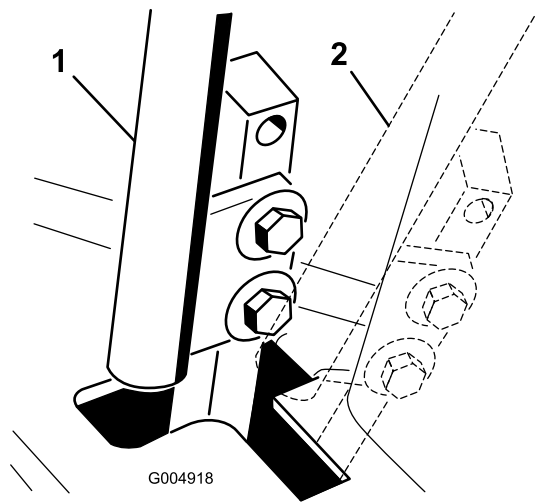

Figure 50
4. Move the control lever to the NEUTRAL position but **not locked** (Figure 50).
6. Check where the control lever is relative to notch in the console (Figure 50).